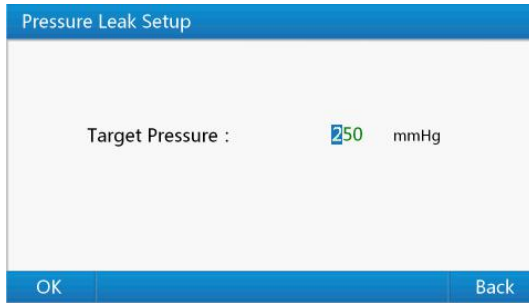

Figure 11 Target pressure setup interface
- 2) This interface displays current target pressure, you can set the target pressure by using right key to enter the setting interface shown as Figure 11. In this interface, use the number keys to input target pressure, and after entering a digit, the cursor will automatically move to next digit for input. After input the target pressure, press "**Enter Key**" to save. In this interface, pressing "**Return Key**" can get back to "**Pressure Leak Test**" interface.